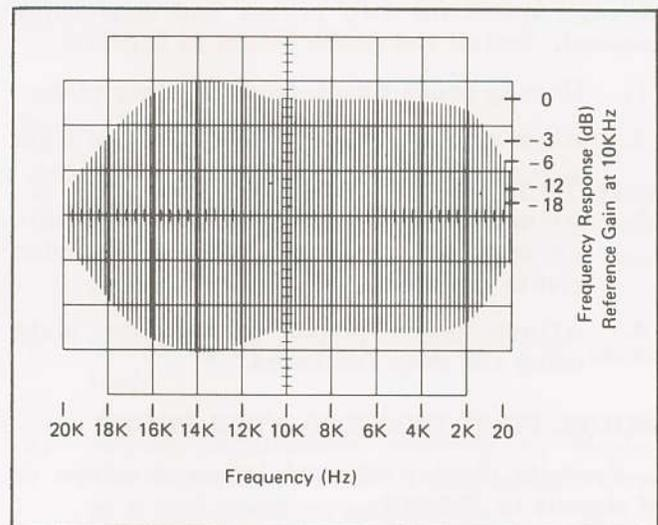

Fig. 19. Frequency Response Measurement, Envelope Response.
FREQUENCY RESPONSE MEASUREMENTS (refer to Fig. 19 and 20)
4. A standard probe will result in an envelope display such as shown in Fig. 19. The example in Fig. 19 results from a negative-going sweep ramp voltage as frequency increases, with the higher